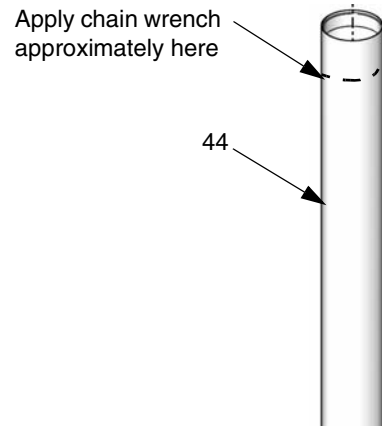
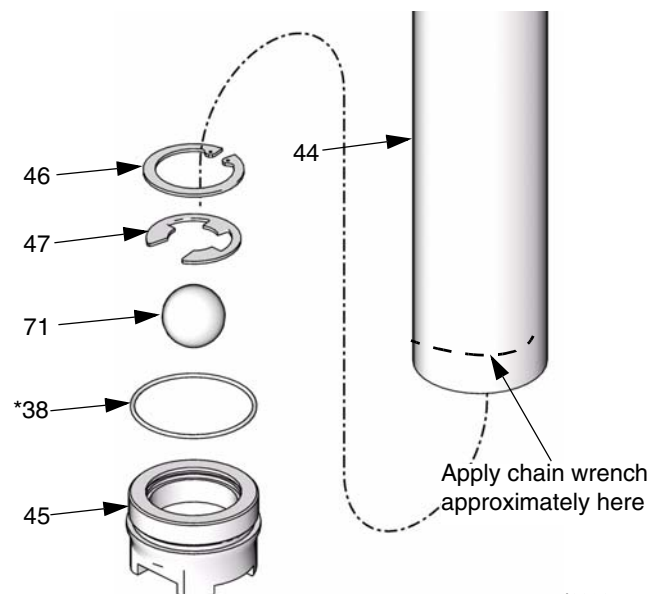

FIG. 15
FIG. 16
- Use a chain wrench near the top of the suction tube at the point indicated in FIG. 15, and a wrench on the flats of the foot valve (45) to loosen the foot valve from the suction tube (44). To prevent damage to the suction tube, do not remove the foot valve until instructed to do so in step 3.
When removing the suction tube, be very careful not to bend, dent, or damage it. To avoid damage, use the chain wrench only at the top and bottom of the suction tube as indicated in FIG. 15 and FIG. 16. Do not apply the wrench to the middle of the suction tube.
2. With the foot valve still in place to support the suction tube, use a chain wrench near the bottom of the suction tube at the point indicated in FIG. 16, to loosen the suction tube (44) from the pump body (34).
3. Remove the foot valve assembly from the suction tube (44).
4. Remove retaining ring (46), snap ring (47), ball (71), and o-ring (38\*) from foot valve (45). Inspect all parts for damage. See FIG. 16.